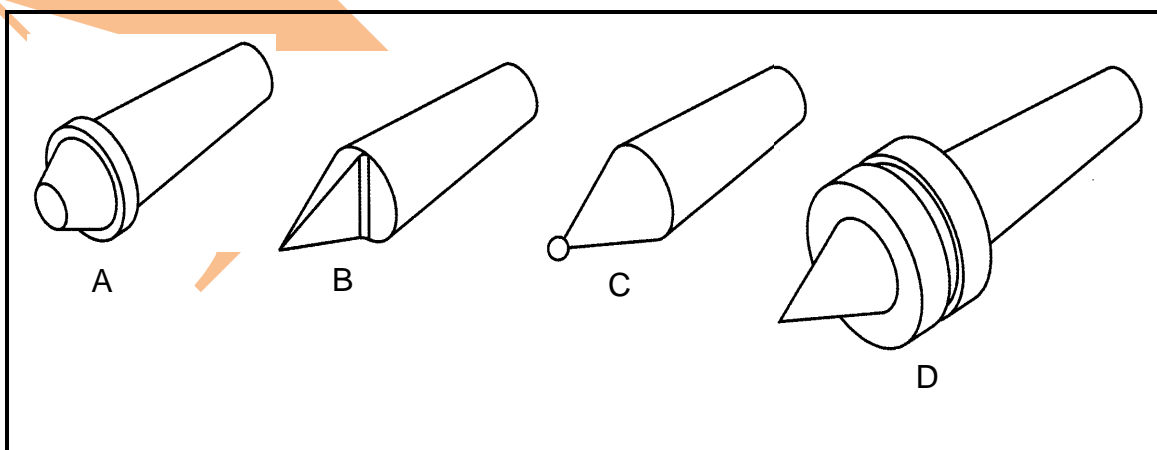

FIGURE 6
3.9 Refer to FIGURE 6 below and identify the lathe centre's. Write the answer next to the letter (A–D) in the ANSWER BOOK.